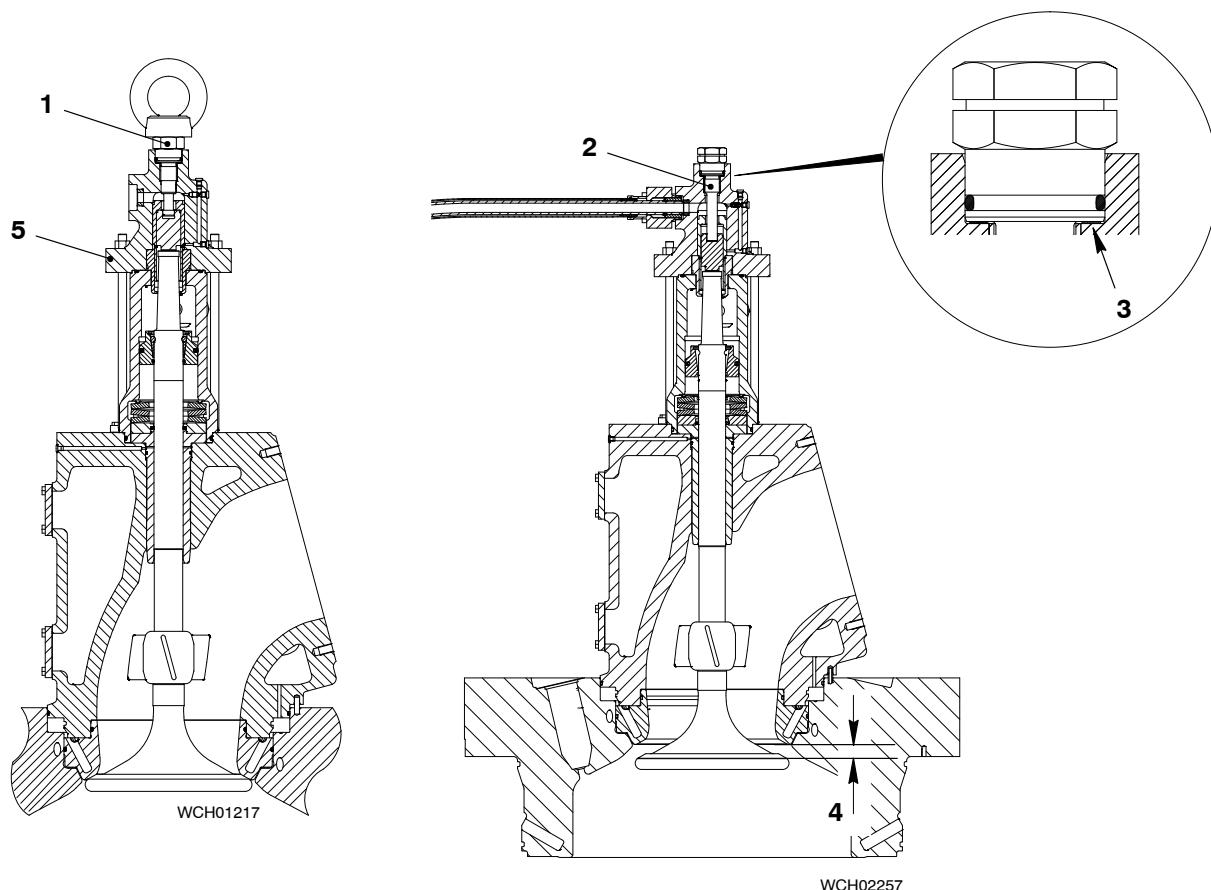

Fig. 2: Exhaust Valve / Pressure Element
- d) Remove the damper (1, Fig. 2) from the top housing (5).
- g) Install the pressure element (2).
- d) Remove the pressure element (2, Fig. 2). Make sure that you do not lose the shim(s) (3).
- e) Apply a thin layer of oil to the thread of the damper (1).
- f) Install the damper (1).